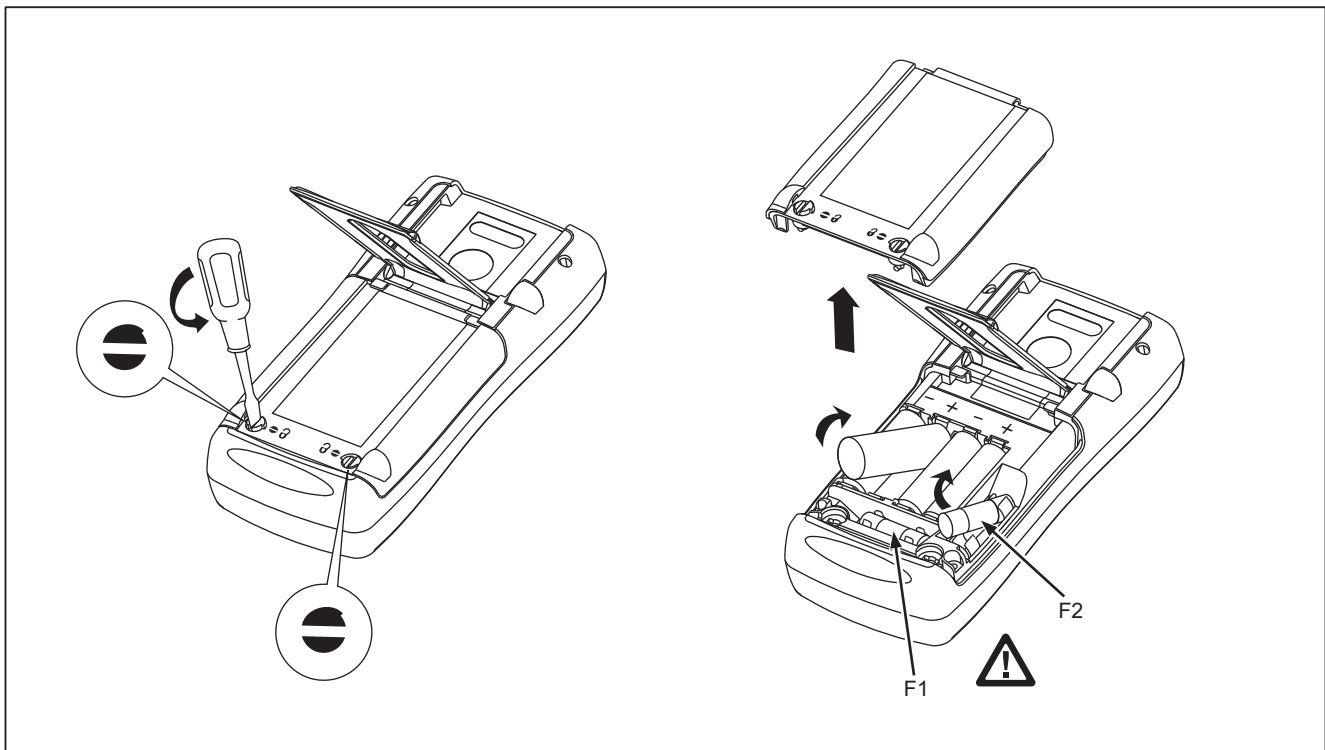

Figure 5. Replacing the Batteries and Fuses
1. Remove the test leads and turn the Meter OFF. See Figure 5.